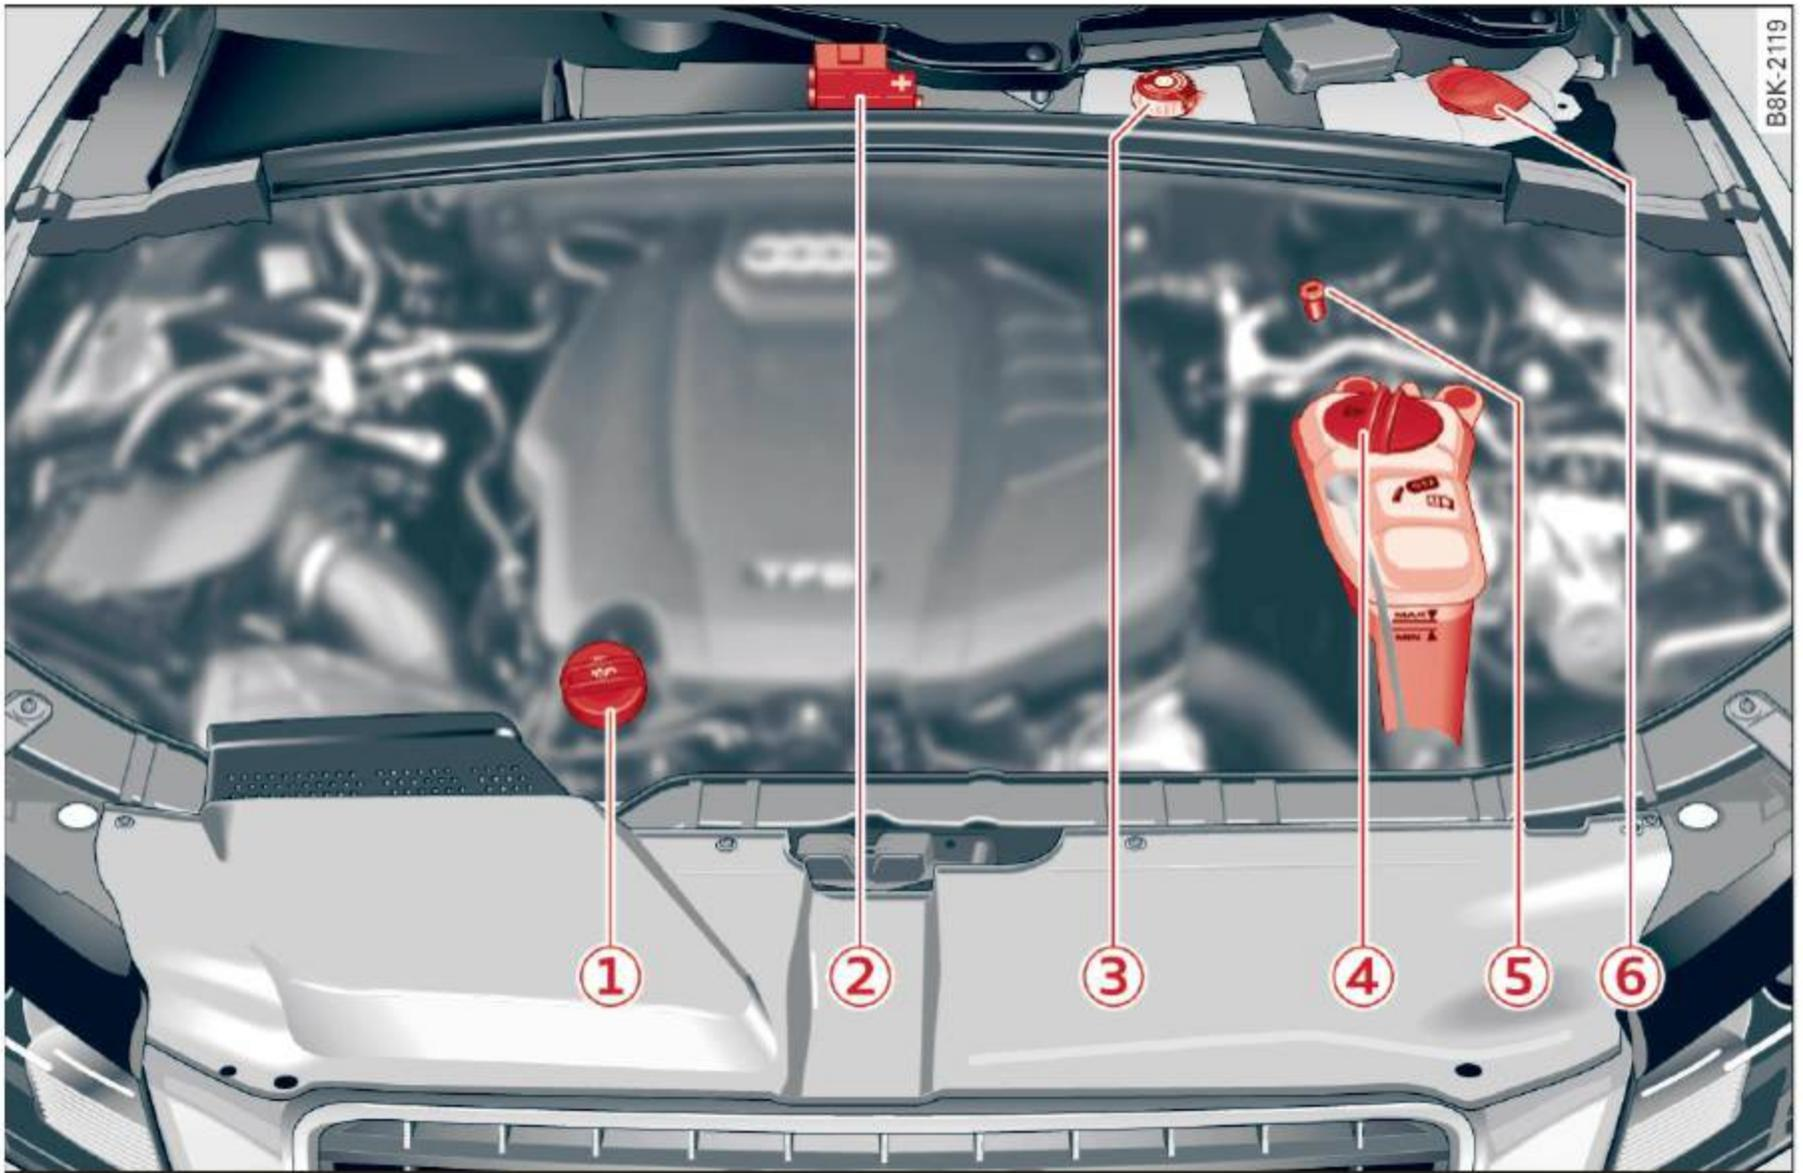

Fig. 161 Typical layout for containers and engine oil filler cap
- ① Engine oil filler cap (🛢️) 195
- ② Jump start point (+) under a cover 202, 237
- ③ Brake fluid reservoir (🚰) 199
- ④ Coolant expansion tank (🌊) 198
- ⑤ Jump start point (-) with hex head screw 202, 237
- ⑥ Windshield/headlight* washer container (🚿) 204
The position of the engine oil filling hole ⇒ fig. 161 (item ③) can differ depending on the engine design.
- ▶ Unscrew the cap  to the engine oil filling hole ⇒ *fig. 163*, ⇒ *page 193*, *fig. 161*.